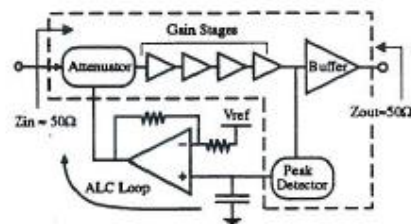

Fig. 1. Functional block diagram of the MMIC chip (inside dashed lines), being used to level output power against variations in input power.
Figure 1 depicts a functional block diagram of the amplifier. Those elements within the dashed box are integrated on the GaAs MMIC which was fabricated in a depletion mode MESFET process with a nominal pinch-off voltage of -2.1V. (2)